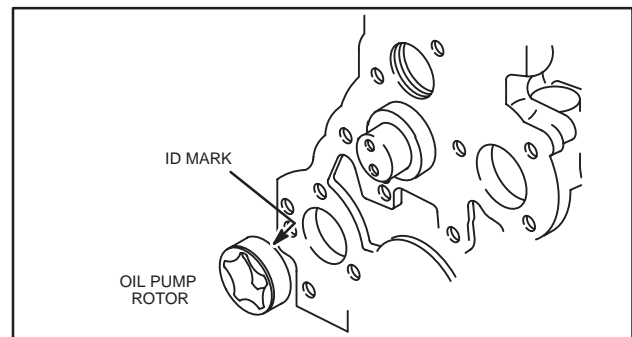

Fig. 15 – Installing Oil Pump Rotor
1. Clean and lubricate oil pump rotor with engine oil and install in cylinder block, Fig. 15.